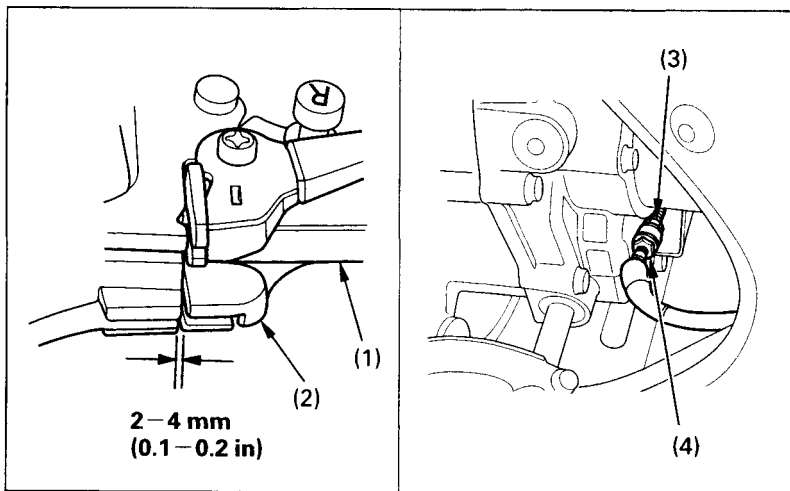

Fig. 4-16
Measure the reverse assist lever (2) free play. Free play, measured at the lever (2) end near the cable (Fig. 4-16), should be approximately: